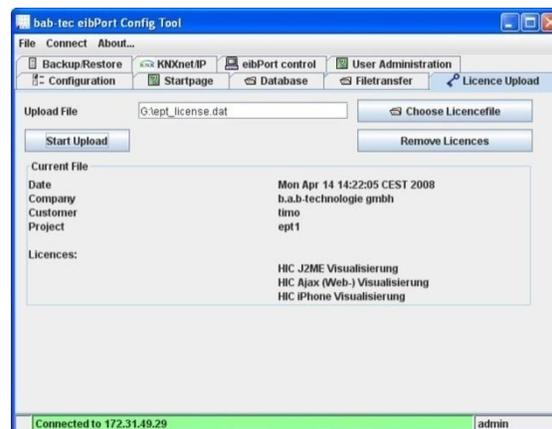

Figure 26: ConfigTool, Licenc upload
2. Choose the „License Upload” tab (Figure 26)